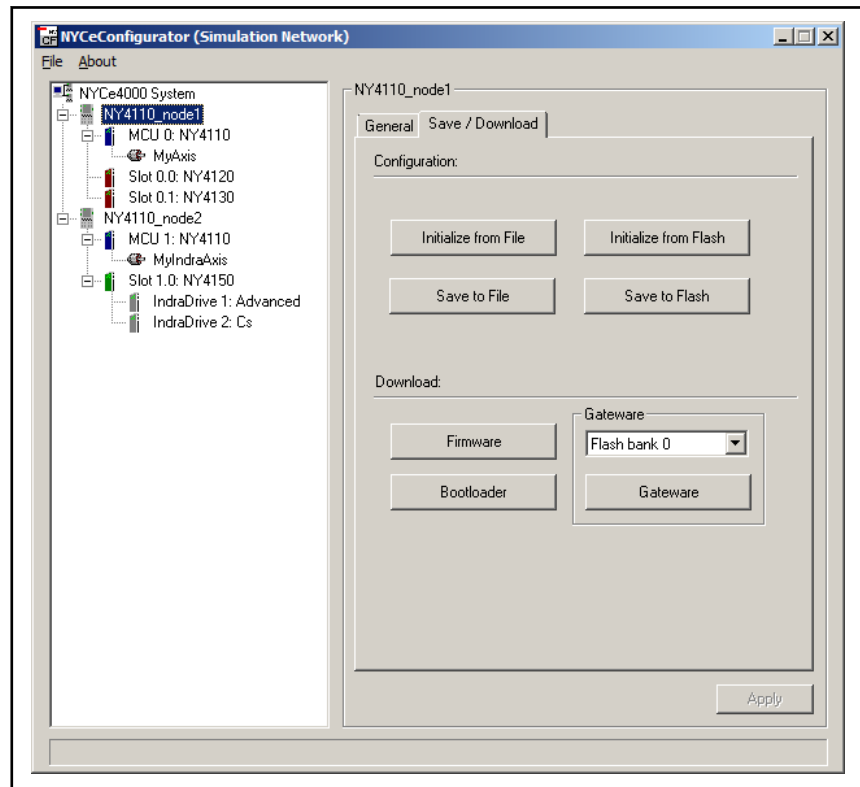

Fig. 2-7: Download the required files to a specific node
4. Click the "Save / Download" tab in the pane at the right side, see fig. 2-7 "Download the required files to a specific node" on page 16.